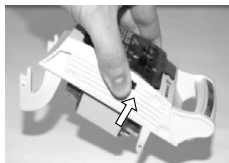

Figure 21
- Tilt the cover causing the self pulling out of fuse links from the fuse holders (Figure 21).